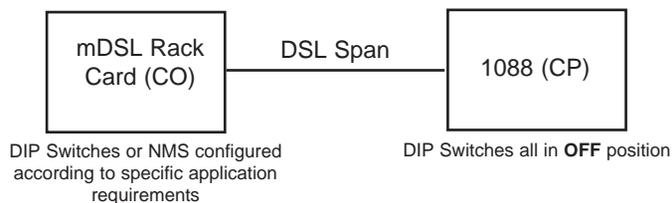

Figure 3. Typical Plug-and-Play Application
1. Set the mDSL Rack Card (CO) to either Internal or External clocking mode as defined by the application.
2. Set the Compact mDSL Modem (CP) to "Plug-and-Play CP" by setting all S2 and S3 DIP switches in the OFF position as described in Figure 3, below.